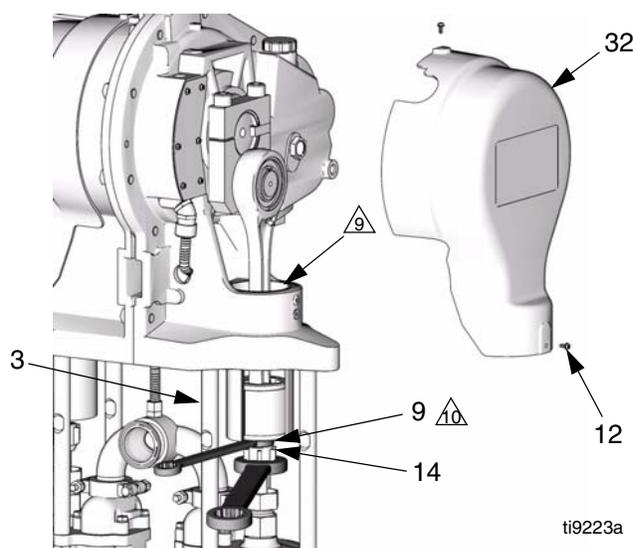

FIG. 3. Remove Coupling Nut
- Jog the motor to bring the lower on the side being repaired to the bottom of its stroke. This provides access to the coupling nut (14).
- See FIG. 3. Place a 3/4 in. wrench on the slider piston (9) flats (just above the coupling nut), to keep the slider piston/connecting rod from turning when you are loosening the coupling nut (14). Orient the wrench so it is braced against one of the tie rods (3). Applying excessive force to the slider piston/connecting rod can shorten the life of the lower pin bearing.
- Using a 1-5/8 in. open-end wrench, unscrew the coupling nut (14) from the slider piston (9) and let it slide down onto the pump piston rod. Be careful not to lose the collars (13).